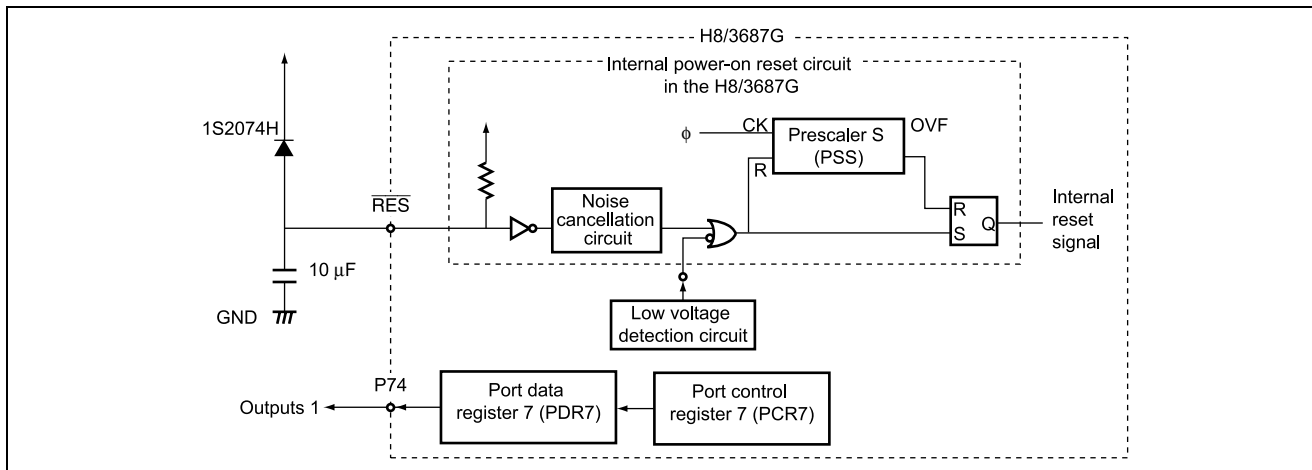

**Figure 1.1 Microcomputer connections when using an internal power-on reset circuit**
1. An optional internal circuit in the H8/3687G is used for the H8/3687 externally to perform power-on reset operation. Figure 1.1 shows an example of microcomputer connections when using an internal power-on reset circuit.